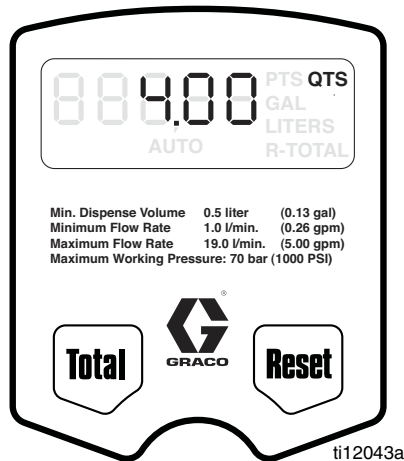

FIG. 13
1. If the display was blank (in sleep mode), press and hold the Total or Reset button. The amount of the last dispense appears on the display (FIG. 13).